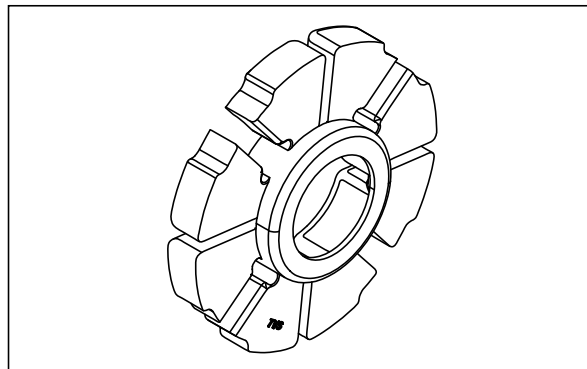

Fig. 6.98
- Inspect the absorber rear wheel hub shock for wear, deformation or damage. Replace with new one if required. (Fig. 6.98)